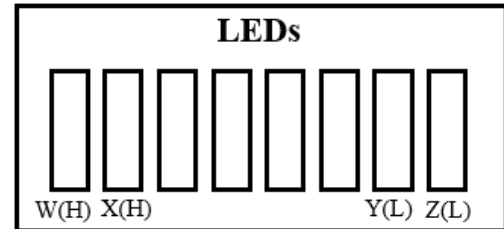

Figure 3: LED layout (legend). Note that each LED should be on (lit) when the corresponding signal is true.
8. Make an **LED legend on your logic circuit diagram** that indicates the location of each LED on an LED DIP chip (as shown in Figure 3).